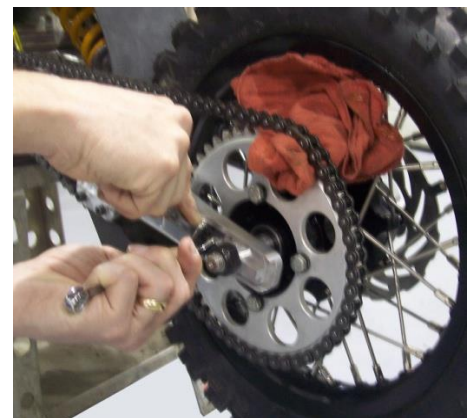

Figure 3
- Put a rag between the sprocket and chain, and roll the wheel backward to pull the chain adjuster blocks tightly against the adjuster bolts (Figure 3).